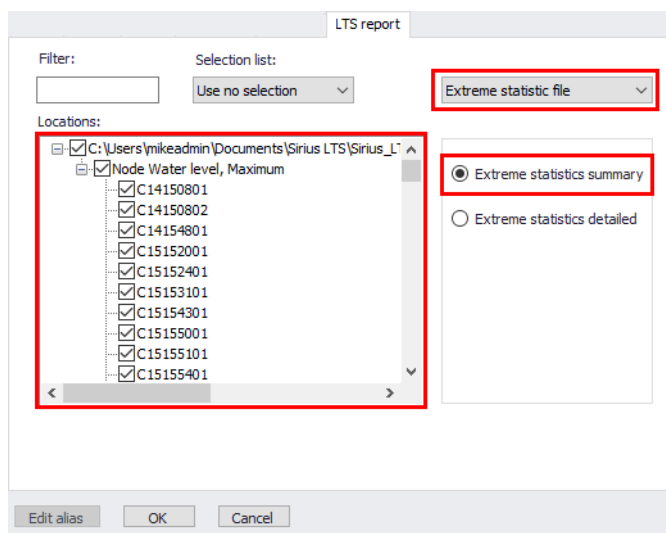

Figure 20.69 LTS extreme event statistics summary report configuration
- Choose to generate a report with the ‘Extreme statistics file’ from the dropdown menu on the upper right side of the page (Figure 20.69).
- Select the items and locations which shall be included in the report (Figure 20.69). Note that relevant items are offered on the Locations panel only if the appropriate LTS result file has been activated for the result document creation.